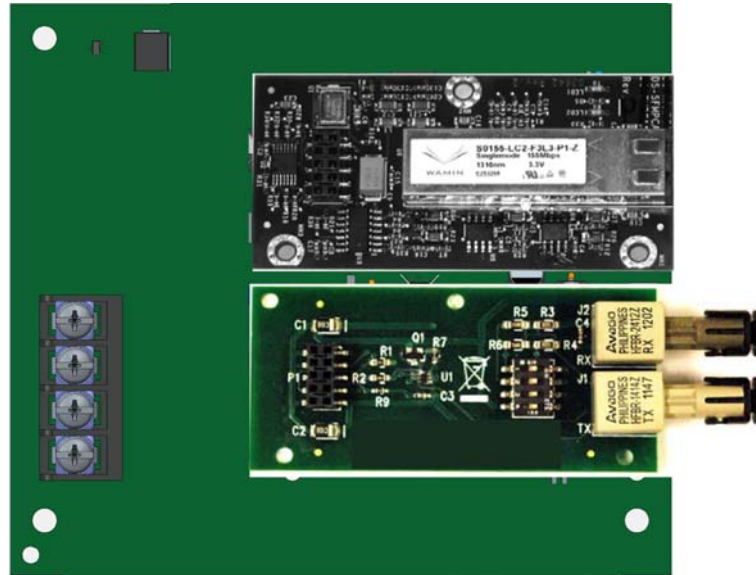

Figure 5.57 SK-NIC with Fiber Loop Modules
Each fiber loop module can Transmit (TX) and Receive (RX) fiber-optic cable connecting to the SK-NIC. Up to two fiber loop cards can be added to the SK-NIC, and both cards may be combined in the same configuration. See Figure 5.57.